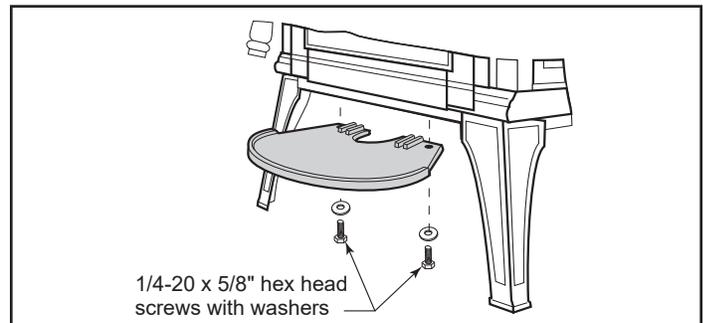

Figure 7.2 - Attach the ashlip to the bottom plate.
Use a 7/16" wrench to secure the ashlip to the stove bottom with two, 1/4-20 x 5/8" hex head screws and washers found in the holes used to attach the ashlip. (Figure 7.2)
2. Locate the hex bolt (Figure 7.2) located in the center rear edge of the stove bottom plate. Loosen this bolt just enough to engage the Adapter clevis tab under the washer and then retighten.